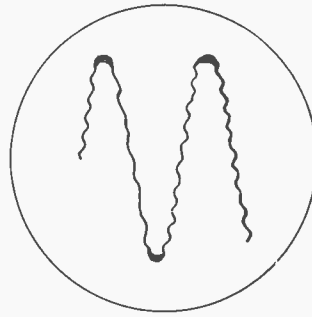

FIGURE 4
- Hum and noise may be detected in a trace as shown in Figure 4, which is sometimes caused by a defective filter condenser or tube. A ripple voltage (60 cycle or 120 cycle) is indicated by this undulating wave form caused by insufficient